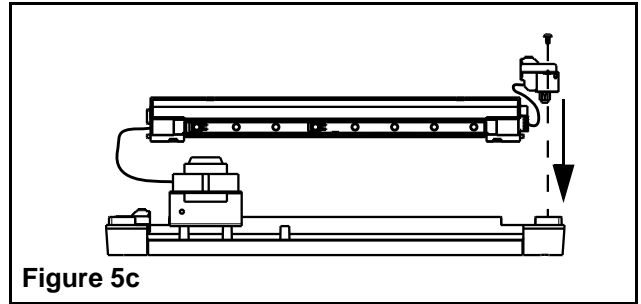

Figure 5c
- c. Re-install the electronic module and the bracket, this time oriented as in (Figure 5c). Reconnect the transformer harness to the electronic module.